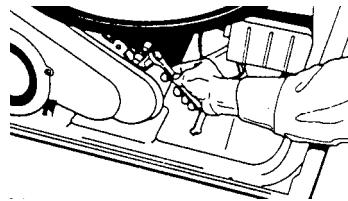

Fig. 29
1. Using a 5/16" socket, remove the two screws attaching the operating thermostat and the bias heater to the blower housing. (Fig. 29) Remove the operating thermostat and the bias heater.